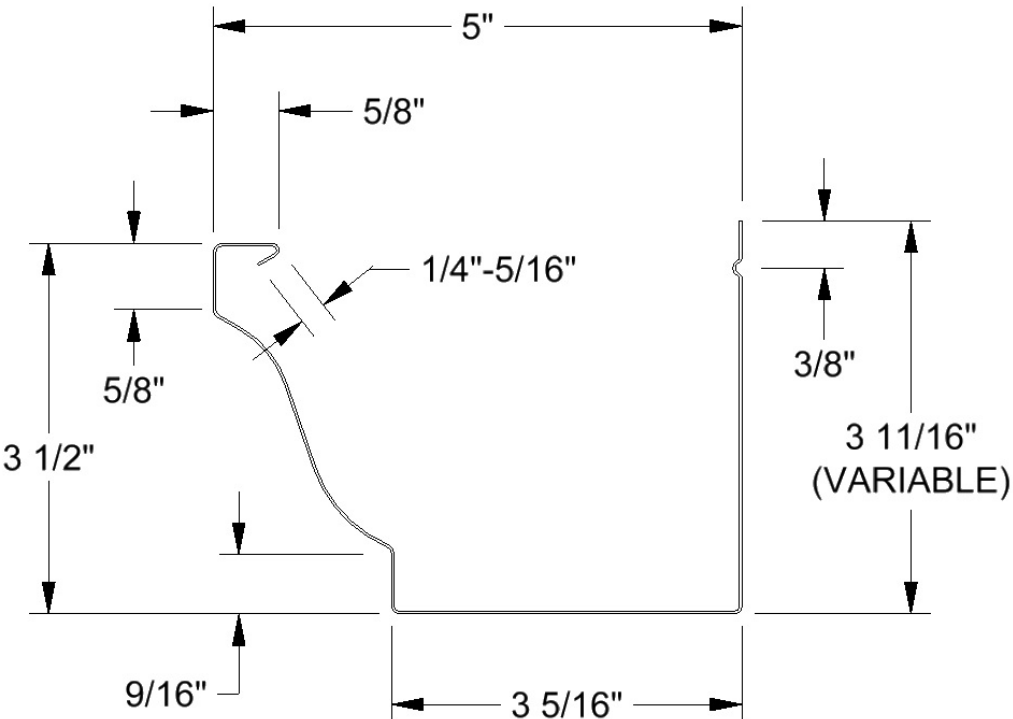
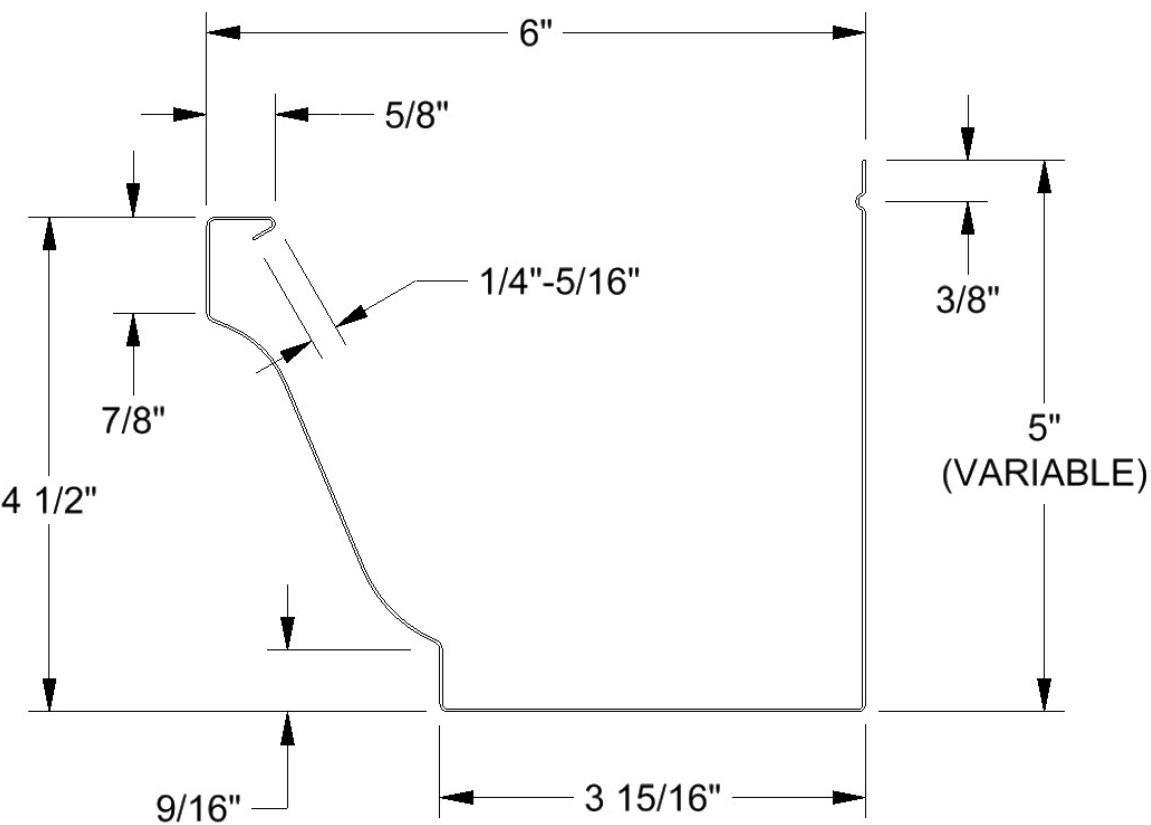

Figure 84: 5" Gutter Profile
Figure 85: 6" Gutter Profile
- Run an eight (8) ft. length of gutter out of the machine. This piece will be used to determine what steps must be taken to correct the gutters appearance.
- Inspect the width of the gutter. This dimension should be 5” +/- 1/16” for the 5” gutter (Figure 84) and 6” +/- 1/16” for the 6” gutter (Figure 85).